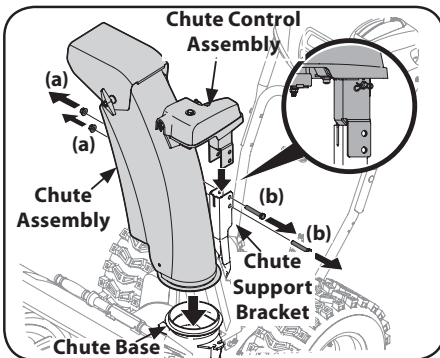

Figure 2-35
1. Remove lock nuts (a) and hex screws (b) from chute support bracket (this will require two wrenches). See Figure 2-35.
2. Place chute assembly onto chute base and chute control assembly onto chute support bracket. See Figure 2-35.